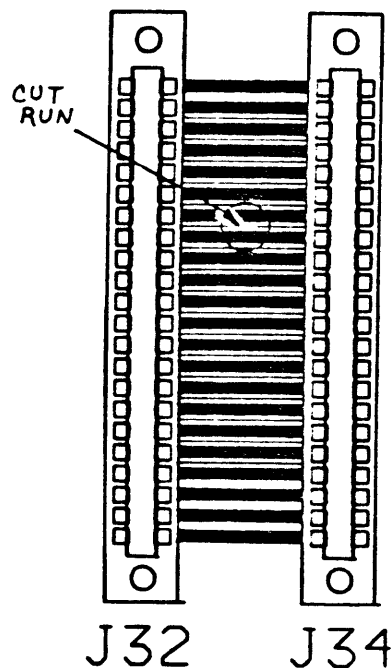

Figure 3
3. Connect an ohm meter to pin 30 of the extender board. Use the other lead to verify which run between J32 and J34 must be cut. It is the 13th run from the top and is a narrow run between two wider runs. See Figure 3.